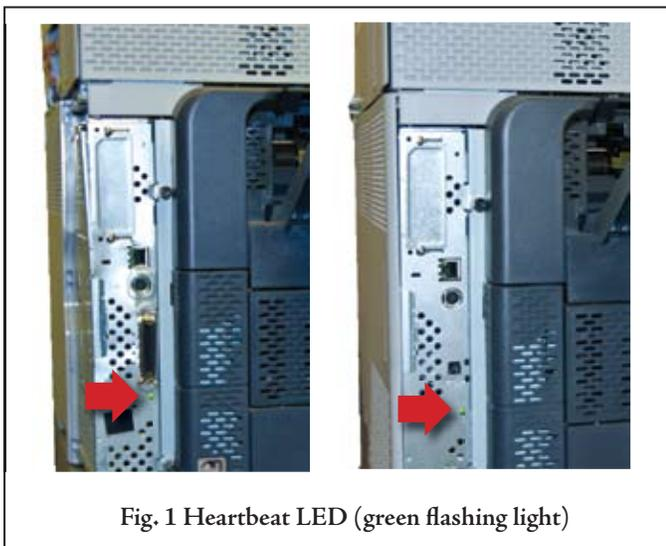

Fig. 1 Heartbeat LED (green flashing light)
- A. Observe the "heartbeat LED" (visible just below the parallel port, or on the M4345, below the USB port – see figure 1). In a working printer, this LED will flash briefly on power-up, turn off during the memory count, and then pulse on and off in a regular pattern while the HP logo is cycling. If this LED is not pulsing while the logo is cycling, the problem is formatter-related. If the LED is pulsing, it's hard to be sure, so we need to run an engine test. Go to step B.